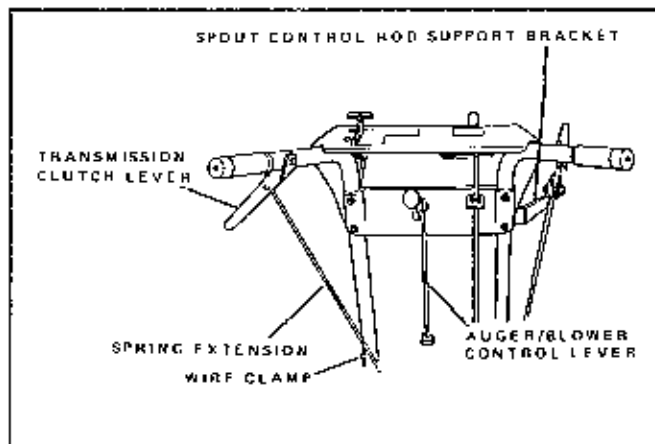

Figure 3.
6. Insert both the spring extension and the wire extension through the wire clamp as shown in Figure 3 and secure with 10-24 x 3/8" round head screw. Adjust so there is only a slight amount of slack in free position.